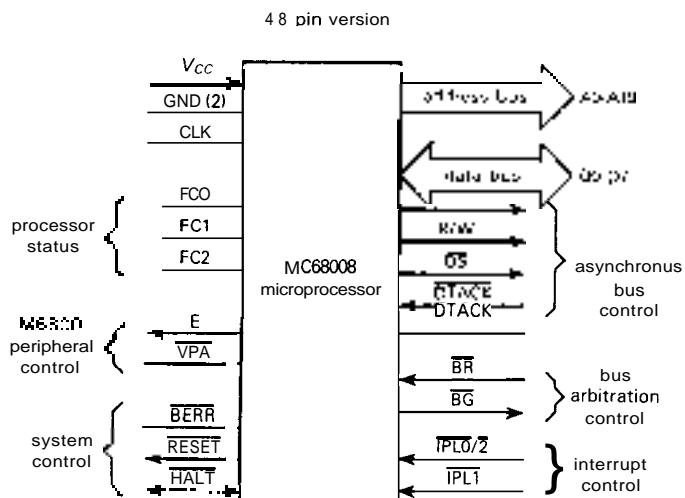

Figure 11.3. 68008 bus.
If you understood the IBM PC's bus signals, you won't have any trouble with the 68008's, which are similar. We've collected them in Table 11.4 (same format as Table 10.1) and Figure 11.3. The best way to learn about them is to look at the same progression as before: programmed data transfer ("programmed I/O"), interrupts, and DMA. It won't take long.
**CLK** This is the CPU clock input, which we showed in Figures 11.3 and 11.4. We recommend using inexpensive commercial crystal oscillators in DIP packages for microprocessor clocks, available from companies like CTS, Dale, Motorola, Statek,